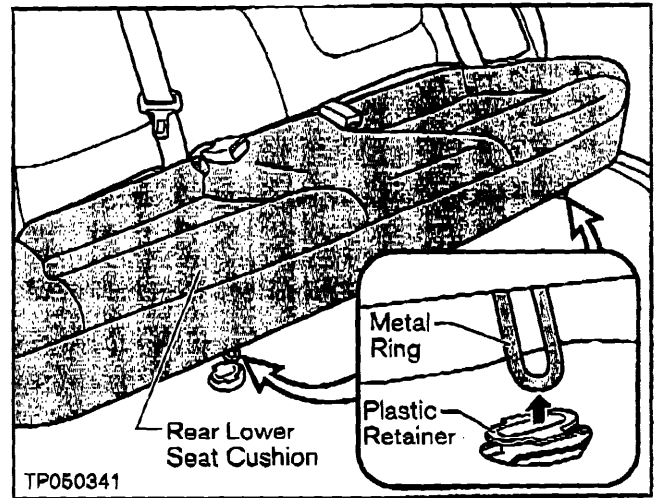

Figure 1
- Pull UP at two locations to release the Metal Ring from the Plastic Retainer (see Figure 1).